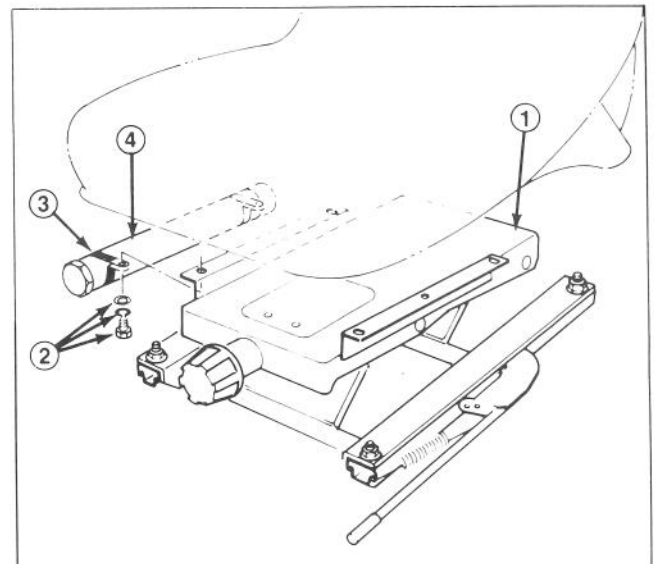

Figure 6
1. Mount seat mounting plate over four threaded studs at the bottom of seat suspension assembly and secure in place with lockwashers and nuts (Fig. 6 & 7).